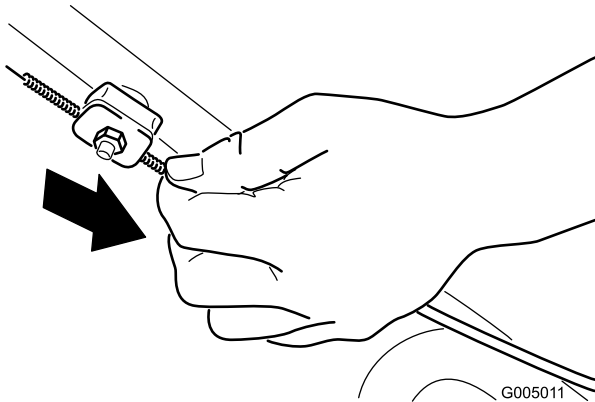

Figure 25
2. Pull down the cable jacket (toward the machine) until there is no slack in the cable (Figure 25).